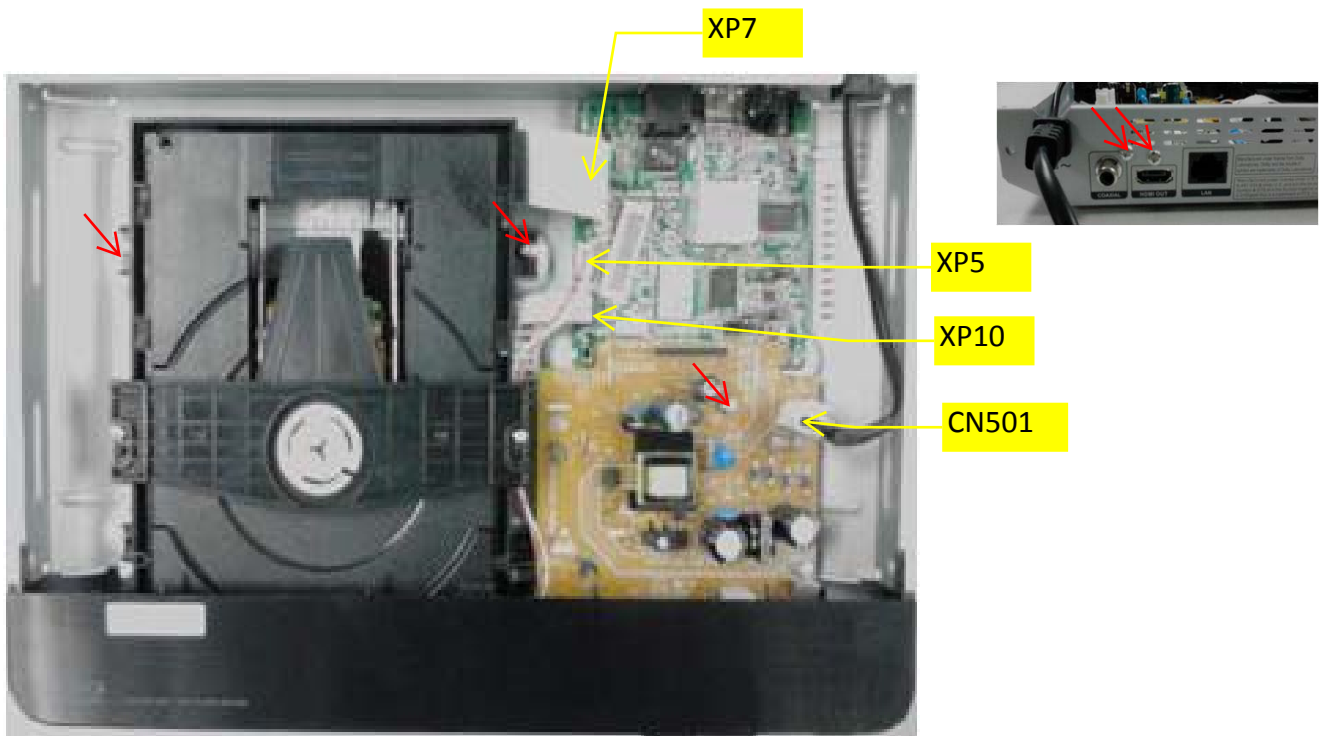

Figure 3
Step3: Dismantle the power board and main board.Disconnect connectors(XP7,XP5,XP10),remove 1 screw on power board and 2 screws on the back panel.(Figure 3)
Step4: Dismantle the loader.Remove 2 screws beside the loader,then pull up the loader.(Figure 3)